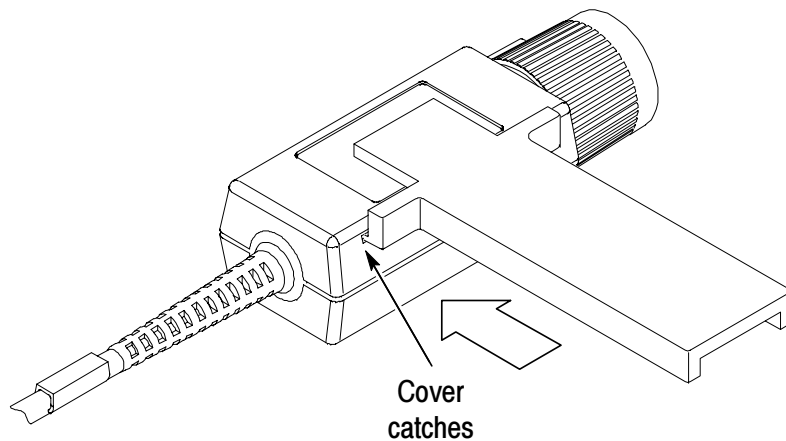

Figure 22: Removing the Compensation Box Covers
1. Press the optional release tool pins into the compensation box cover catches and gently lift the cover off a small distance. Refer to Figure 22.